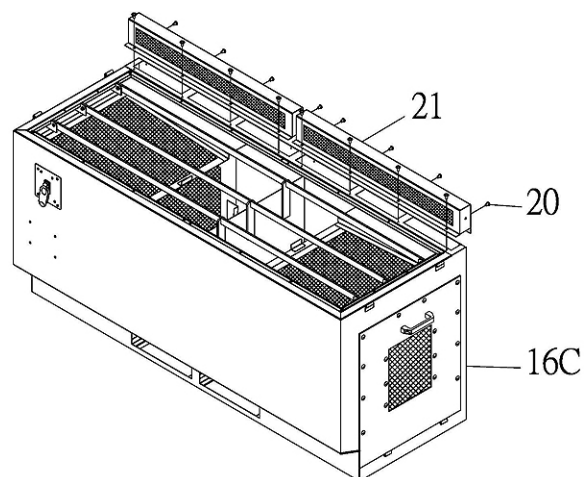

Figure 5-3
1. Place the Suction Head Set (No. 21) on the Main Housing (No. 16C) and secure in place with Phillips Head Screw (No. 20). See (fig. 5-3)